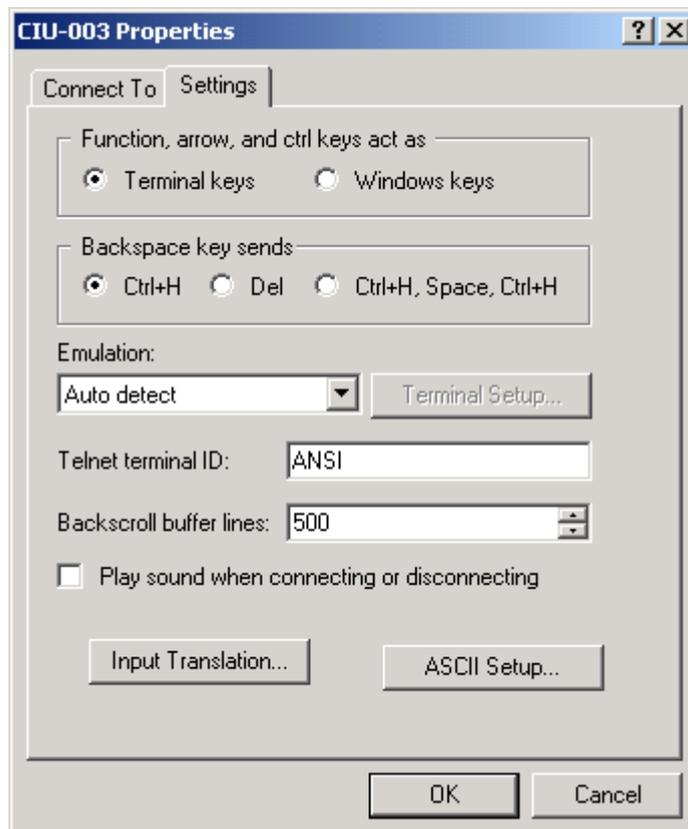

Figure 3.4
- f) after creating a new connection, open the program properties window (on the **File** menu, click **Properties**). Select the **Parameters** tab and perform the following settings as shown in Figure 3.4;